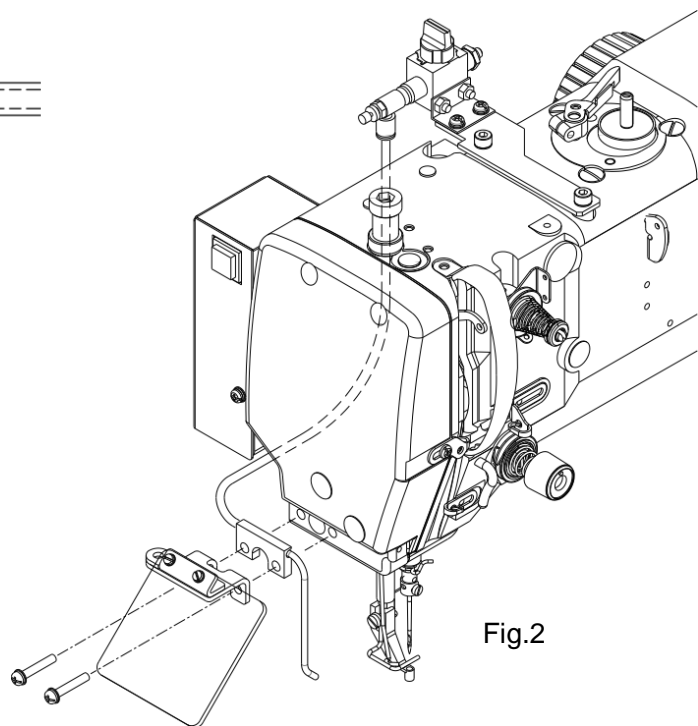

Fig.2
- (4) The equipment that will be mounted in the holder, the eye guard to face plate as shown in Figure 2, please fix it with the Fig.No.103 screw. In this case, please adjust the air outlet of the nozzle is facing to the needle tip.
- (3) Please fix with a Fig.No.108 screw the valve assembly as shown in Figure 2.